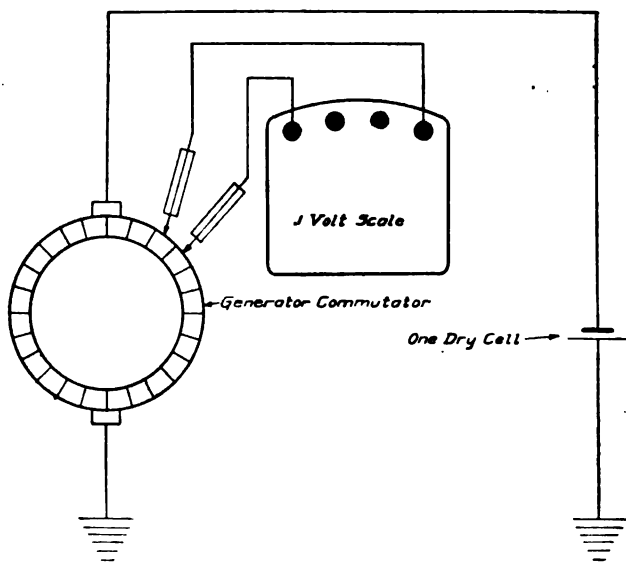

Fig. 268. Diagram of Set-Up when Coils Are Short-Circuited
(2) *Short-Circuited Coils.* If there are no open-circuited coils and the preceding tests indicate that there is trouble with the armature, it should be tested for short-circuited coils. This should be done only after the preceding tests have been made, as an open-circuited coil might cause the .1-volt scale of the voltmeter to burn out if this test were made first. The armature is connected as indicated in(1) above, but for this test the .1 -volt scale instead of the 3-volt scale of the voltmeter is used, Fig. 268. The voltage drop between adjacent commutator bars is then measured by slowly turning the commutator over by hand. The readings should be approximately the same. If any of them drop nearly to zero, it will indicate that one or more of the armature coils are short-circuited. In taking these readings, care must be observed to keep the points always on adjacent commutator bars and not allow them both to come on the same bar at any time; otherwise, the voltage drop may be sufficient to injure the voltmeter.